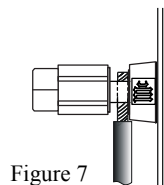

Figure 7
8. Connect the Loudspeaker hookup cables to the MC152 Negative Output Terminal and Positive Output Terminal indentified as 2Ω (ohms), 4Ω (ohms) or 8Ω (ohms) connection to match the impedance of the Loudspeaker, being careful to observe the correct polarities. Insert the spade lug connector or prepared section of the cable end into the terminal side access hole, and tighten the terminal cap until the cable is firmly clamped into the terminals so the lugs or wire cannot slip out. Refer to figures 7 and 8.
terminal cap until the cable is firmly clamped into the terminals so the lugs or wire cannot slip out. Refer to figures 7 and 8.